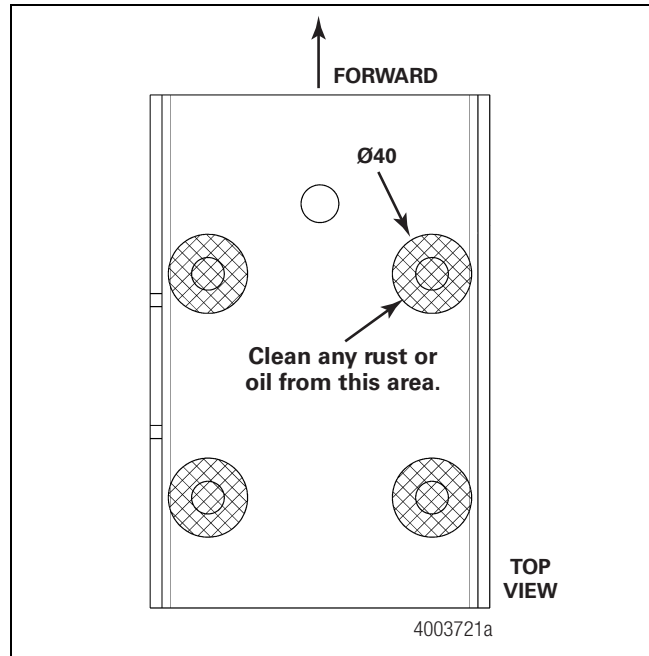

Figure 7.21
1. Clean any rust or oil from the subframe in the area under the eight washers. Figure 7.21.